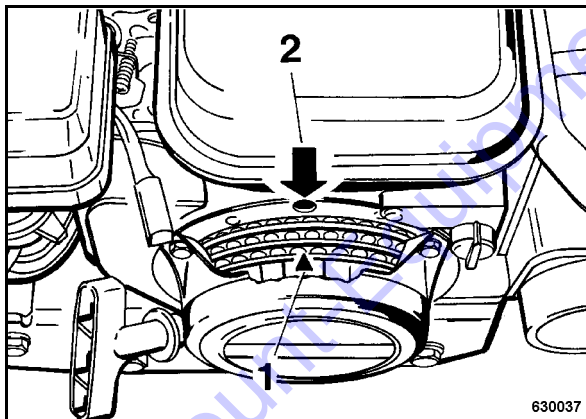

Fig. 57
- For this purpose align triangle mark (1) (Fig. 57) on the starter disc to the top bore (2).